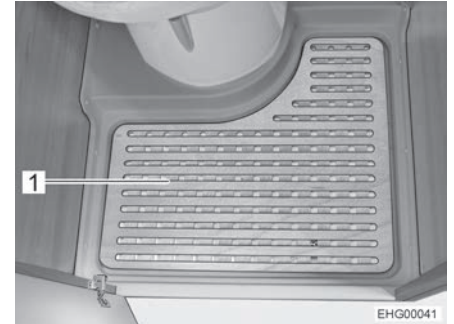

Fig. 149 Removable floor plate
- Take out the removable floor plate (Fig. 149,1) for showering.